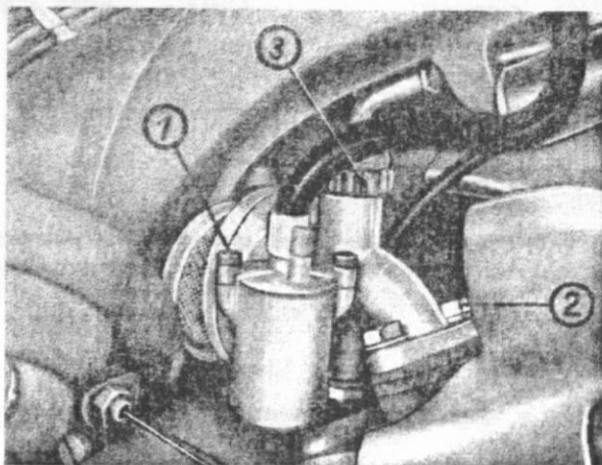

Fig. 30: Dismantling the carburettor
1. Loosen holding-down screws of float chamber cover (Fig. 30, No. 1).
1. Unscrew fastening screws (Fig. 30, No. 2) of carburettor.
3. Unscrew screw cover (Fig. 30, No. 3).